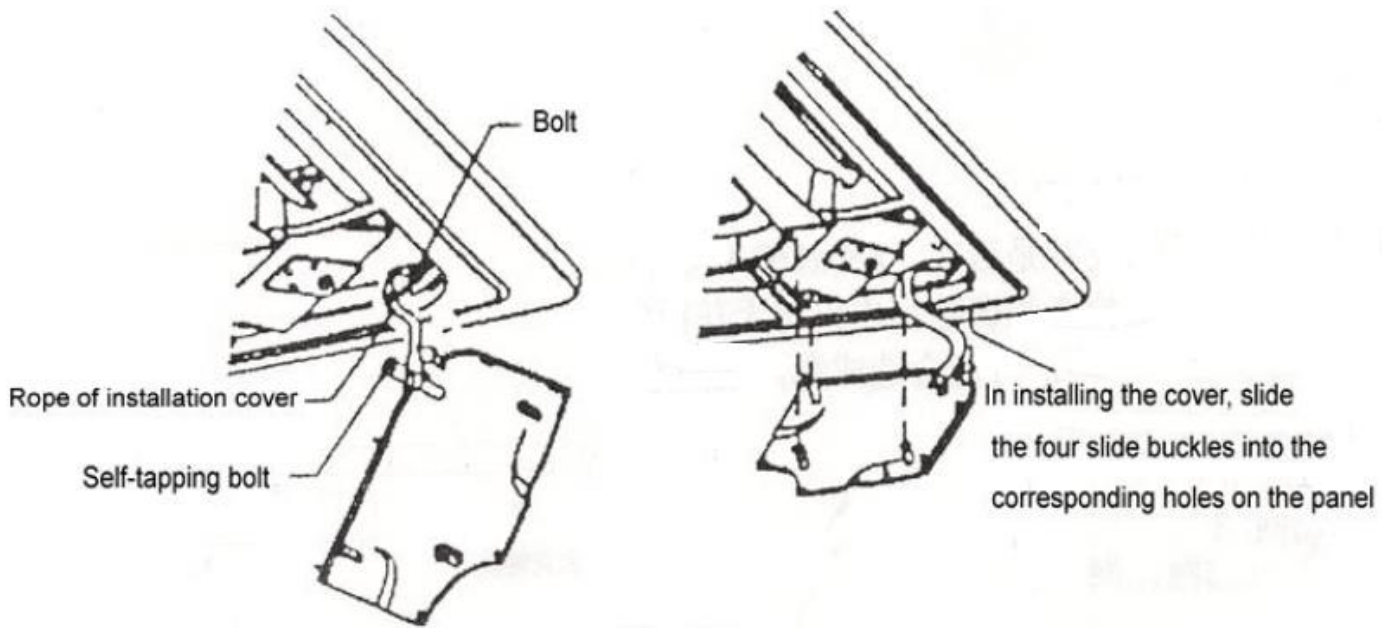

Fig. 15
- (1) Fix the rope of the installation cover board at the bolt of the cover board(See the left one of Fig 15);
- (2) Slightly push the cover into the panel (see the right one of Fig 15)